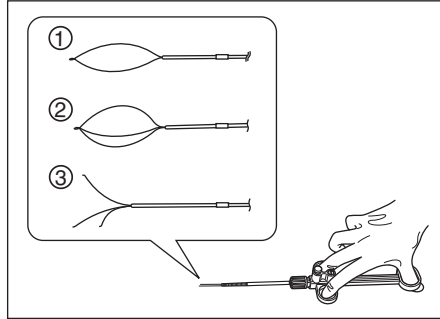

Figure 3.16
1. Push the slide to push the control wire out of the sheath and open the foreign object retrieval section of the industrial retrieval tool so that it can hold the foreign object (see Figure 3.16).